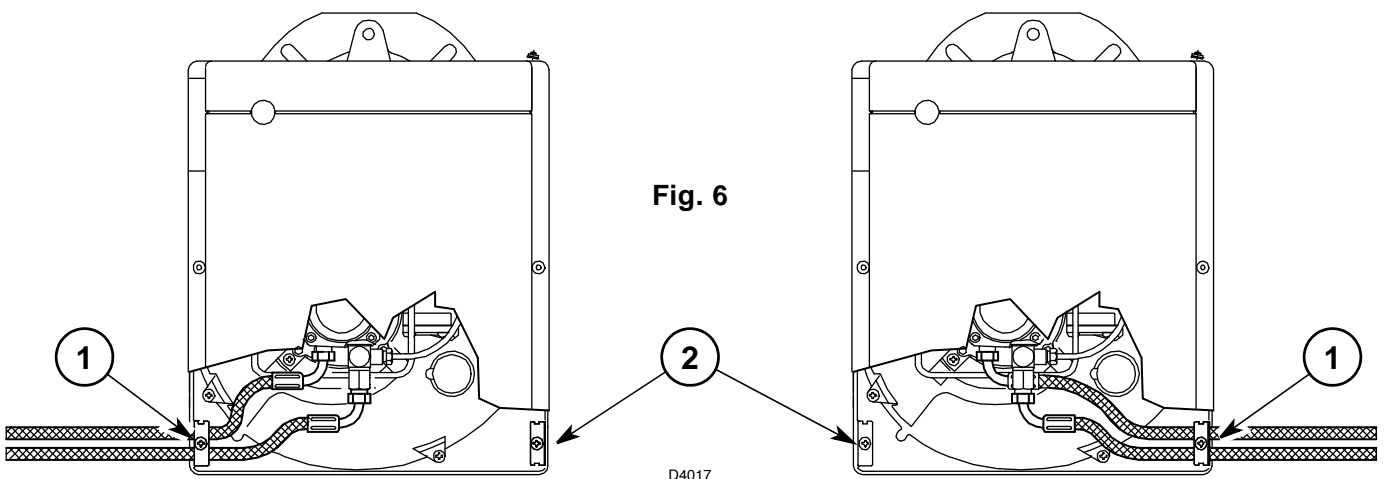

Fig. 6
The burner is designed to allow entry of the oil supply pipes on either side. Depending on the oil supply pipes position (to the right or to the left hand side of the burner) the fixing plate (1) and closing plate (2) should be reversed, (see fig. 6).